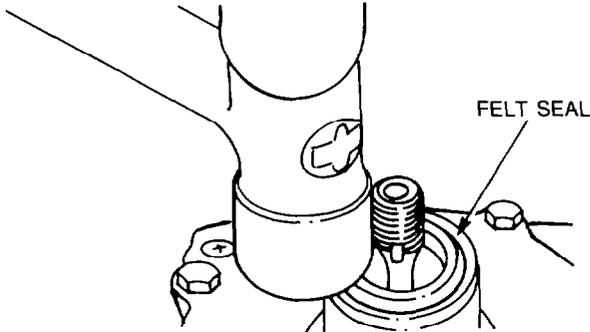

Figure 34 — Felt Seal — Installation
- g. Install the clutch spacer shims on the shaft, then lightly tap the felt seal into position (see Fig. 34).